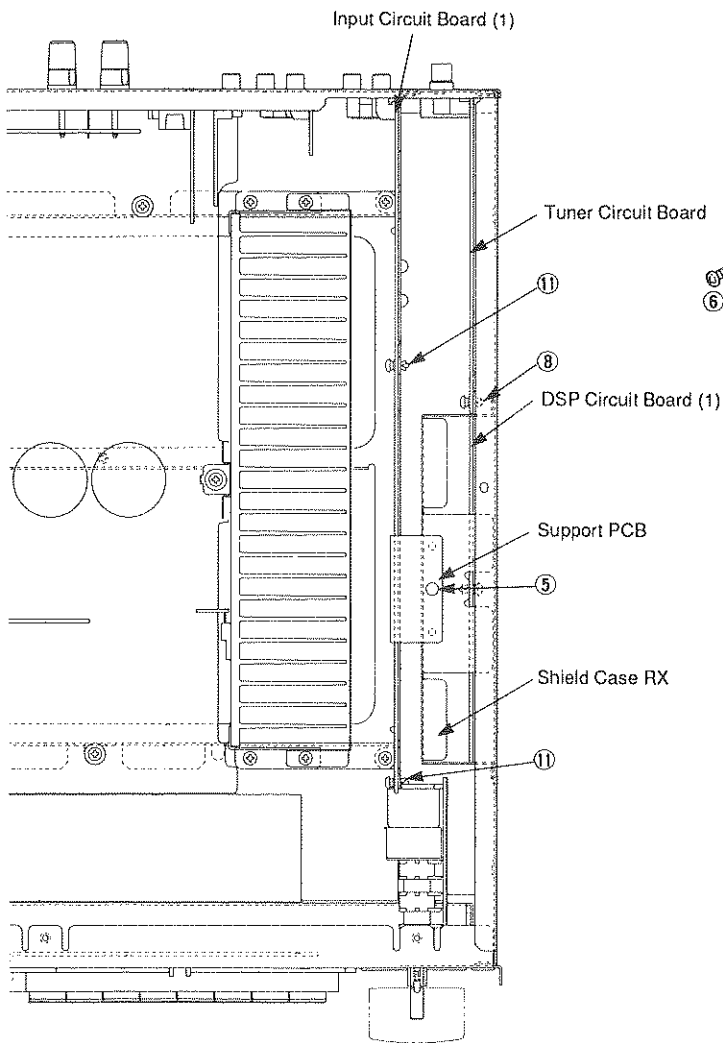

Fig. 2
4. Removal of DSP Circuit Board (1) and Tuner Circuit Board
- a. Remove the plastic rivet (⑤) and then remove the support PCB in Fig. 2.
- c. Remove the plastic rivet (⑧) in Fig. 2.
- b. Remove the plastic rivet (⑪) in Fig. 2.
- c. Remove the input circuit board (1) and disconnect connectors as necessary.